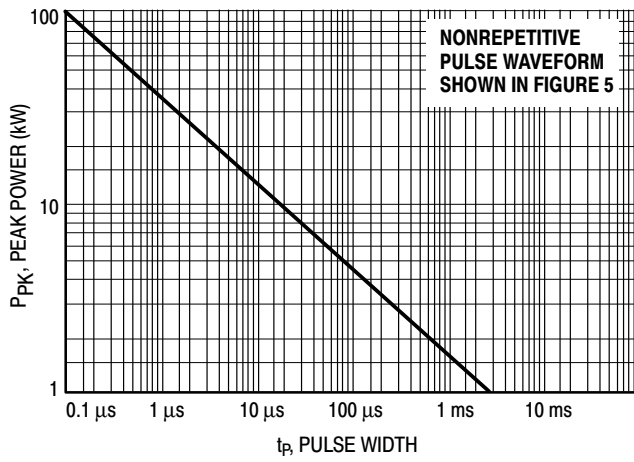
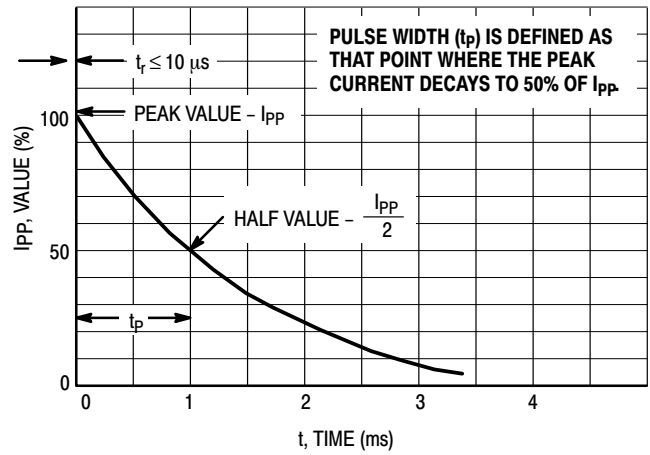
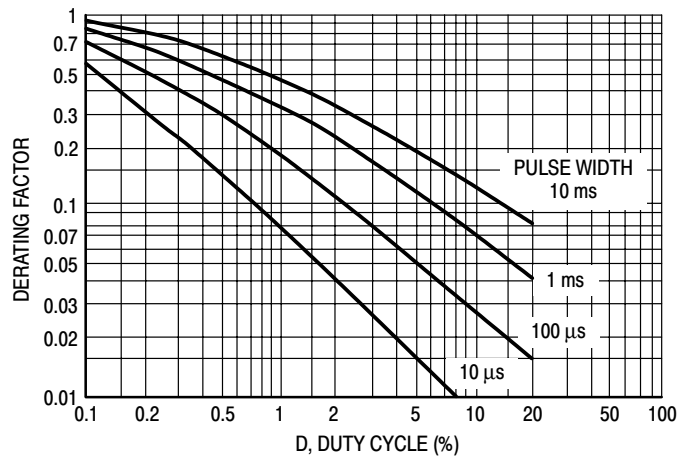

Figure 1. Pulse Rating Curve
Figure 4. Pulse Waveform
Figure 6. Typical Derating Factor for Duty Cycle
- Surge current waveform per Figure 4 and derate per Figures 1 and 2.
The data of Figure 1 applies for non-repetitive conditions and at a lead temperature of 25°C. If the duty cycle increases, the peak power must be reduced as indicated by the curves of Figure 6. Average power must be derated as the lead or ambient temperature rises above 25°C. The average power derating curve normally given on data sheets may be normalized and used for this purpose.
At first glance the derating curves of Figure 6 appear to be in error as the 10 ms pulse has a higher derating factor than the 10  $\mu$ s pulse. However, when the derating factor for a given pulse of Figure 6 is multiplied by the peak power value of Figure 1 for the same pulse, the results follow the expected trend.